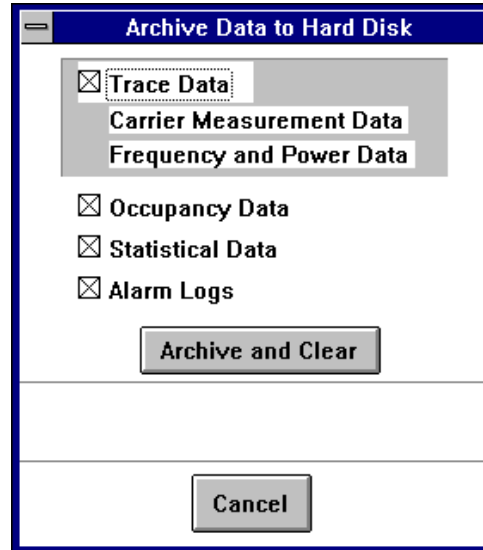

Figure 10-4: The Archive a Data to Hard Disk Dialog Box
1. Click **Data** on the File Utilities window menu bar and then select **Archive Data to Hard Disk** from the dropdown menu to open the **Archive Data to Hard Disk** Dialog Box (Figure 10-4).